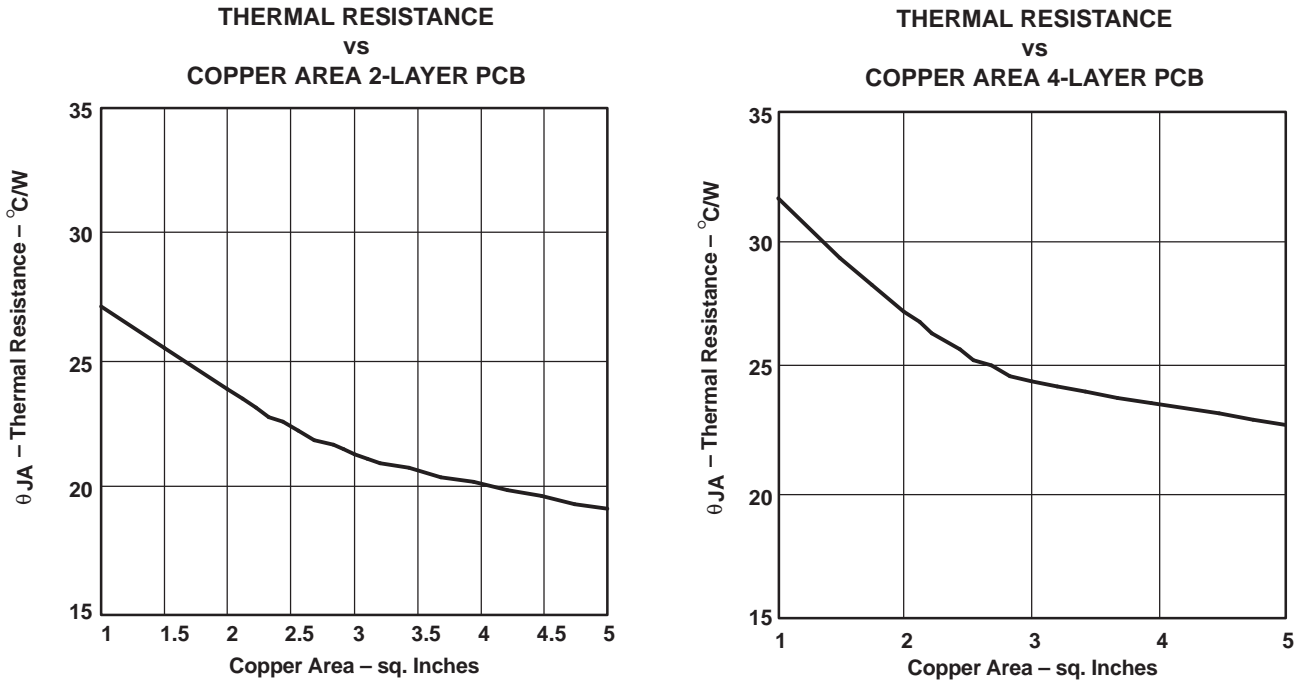
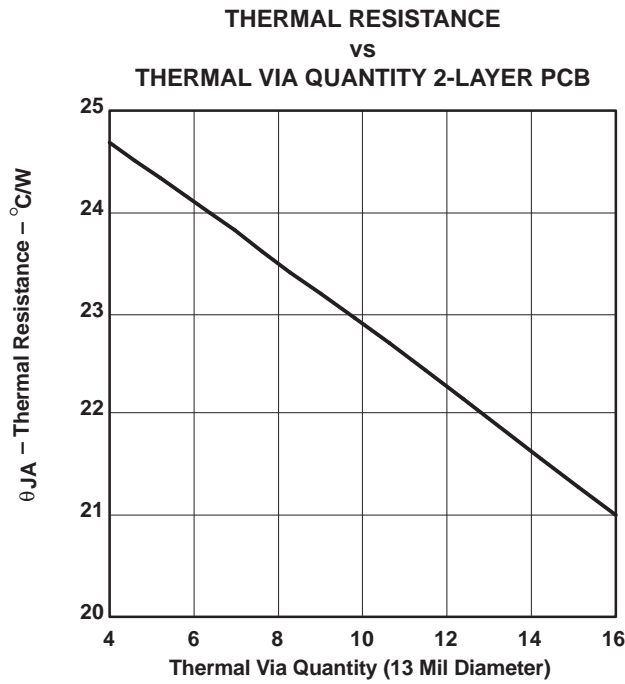

Figure 47. Thermal Resistance
Figure 48. Thermal Resistance
$\theta_{JA} = 19^\circ\text{C/W}$ 2-Layer PCB, 5 sq. in. copper, see Figure 47. (8)
Figure 47 and Figure 48 show the results of several thermal experiments conducted with the TPA3004D2. Both figures show that the best thermal performance can be achieved with more copper area for heat dissipation and an adequate number of thermal vias.
Figure 47 shows two curves for a 2-layer and 4-layer PCB. The 2-layer PCB layout was tightly controlled with a fixed amount of 2 oz. copper on the bottom layer of the PCB. The amount of copper is shown on the x-axis. Nine thermal vias of 13 mil (0.33mm) diameter were drilled under the PowerPad and connected to the bottom layer. The top layer only consisted of traces for signal routing.
Figure 48 shows the effect of the number of thermal vias drilled under the PowerPad on the thermal performance of the PCB. The experiment was conducted with a 2-layer PCB and 3 square inches of copper on the bottom layer. For the best thermal performance, at least 16 vias in a 4x4 pattern should be used under the PowerPad. Refer to the TPA3004D2 EVM User's Manual, SLOU115, for an example layout with a 4x4 via pattern. PCB gerber files are available at request.